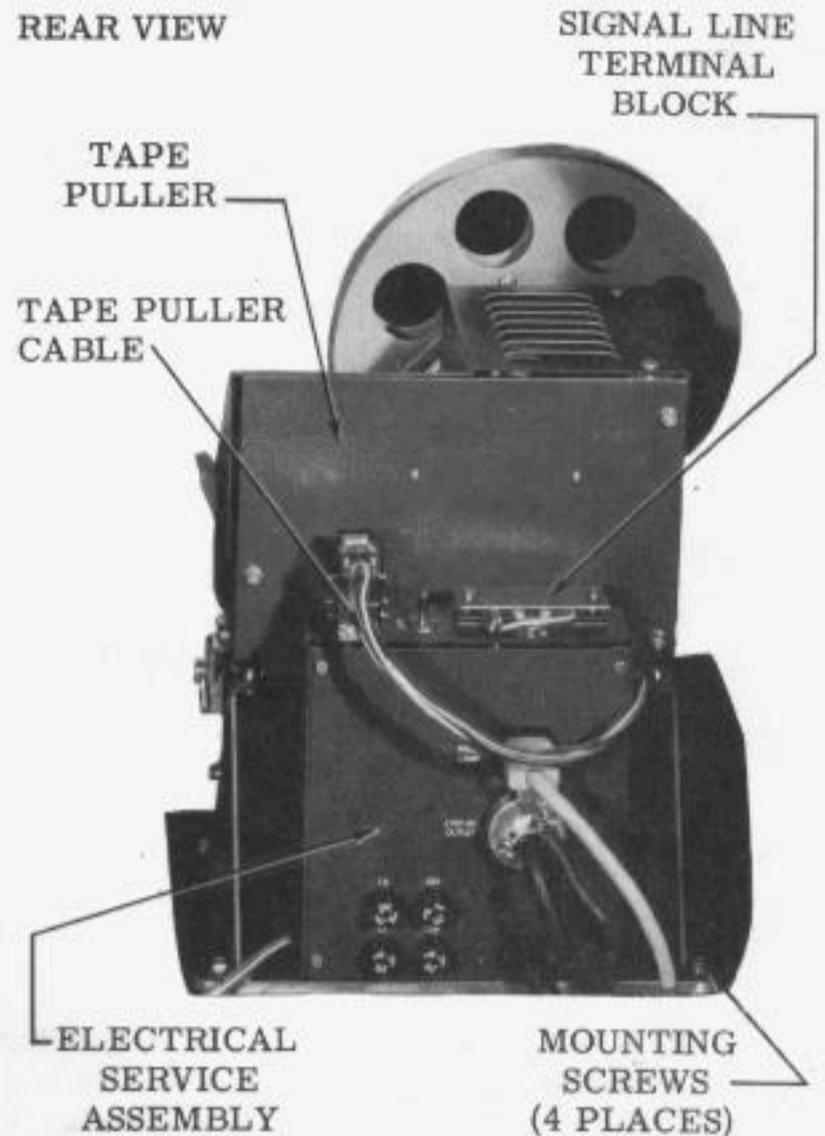
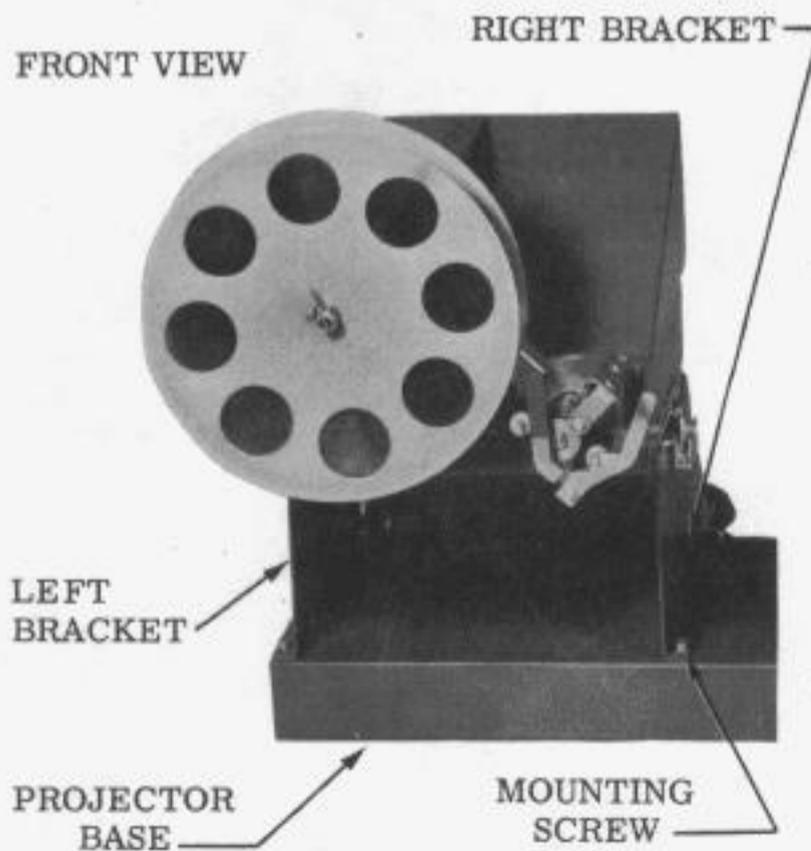

Figure 4 - Electrical Service Assembly
Figure 3 - Tape Puller Assembly
2.04 Install the TP196951 (left) and TP196952 (right) brackets on their respective holes in the projector base and secure them with four TP151723 Screws, TP45815 Lockwashers and TP117535 Flat Washers (Fig. 3). Place the TP196897 Brace between the brackets and secure it with the four TP151723 Screws, TP45815 Lockwashers and TP117535 Flat Washers. Mount the tape puller onto the brackets with the holes in the mounting frame over the locating pins in the mounting brackets. Rotate the winged handle of the latch on the brackets counterclockwise to its most extended position. Place the hooked portion of the fasteners over the keeper plates on the tape puller frame. Rotate the winged handles clockwise to secure the tape puller to the mounting brackets (Fig. 4).
2.05 Mount the electrical service assembly over the appropriate holes in the projector base at the rear of the tape puller so that the fuse holders are away from the tape puller (Fig. 4). Secure it to the base with four TP151723 Screws, TP45815 Lockwashers and TP117535 Flat Washers. Connect the cable from the tape puller to the electrical service assembly in the receptacle. Make sure it is fully plugged in.
2.07 Connect the positive lead of a marking signal line to the terminal marked IN on the terminal block at the top of the electrical service assembly (Fig. 4). Connect the other lead of the signal line to the terminal marked OUT. Remove the shunt on the terminal block. See 7128 WD.